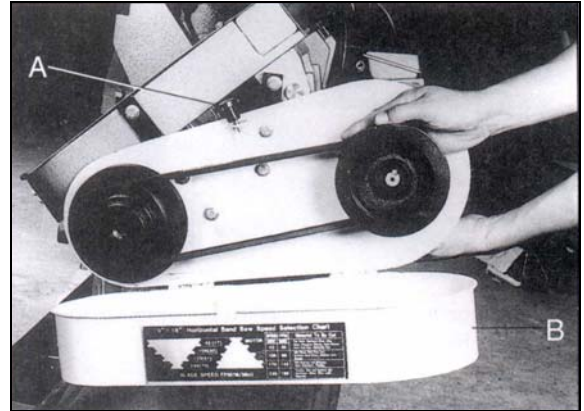

Fig. 12
2. Loosen wing nut (A), Fig.12 and lift up and swing belt and pulley guard (B) to the side of the machine.
4. Shift the belt Fig.12, to the desired grooves on the pulleys and adjust belt tension by pulling the motor plate back until correct belt tension is obtained and tighten tension lock knob.